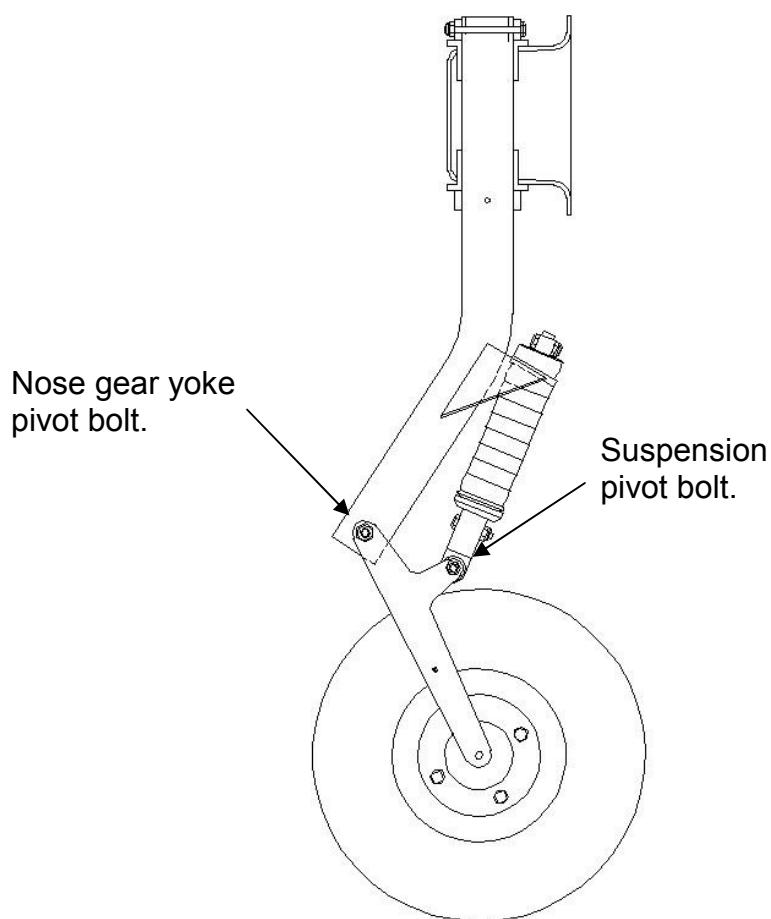

Figure 1. Nose Leg Assembly
All Jabiru Aircraft with a  $\frac{1}{4}$ " bolt through the nose leg wheel yoke pivot. (See Figure 1.).
- v. Remove the suspension pivot bolt from yoke (ref Figure 1.)